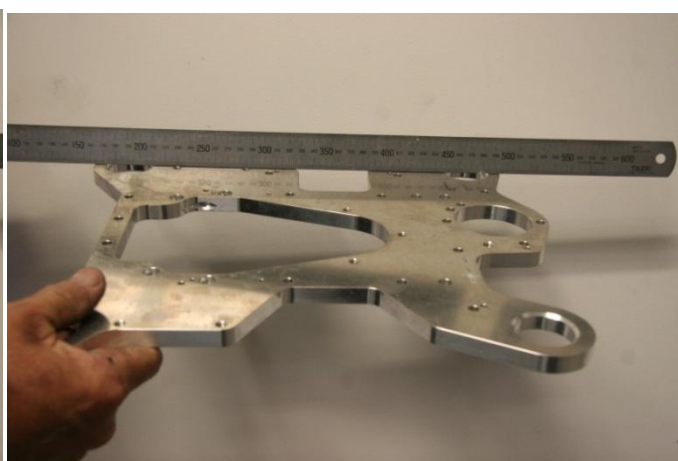

Figure 105 – Checking Engine Mount Plate Trueness
- Using a straight edge, carefully check the plate in both directions for trueness. Often an engine which has been in an accident or had a severe propeller strike will be bent. Figure 105 refers